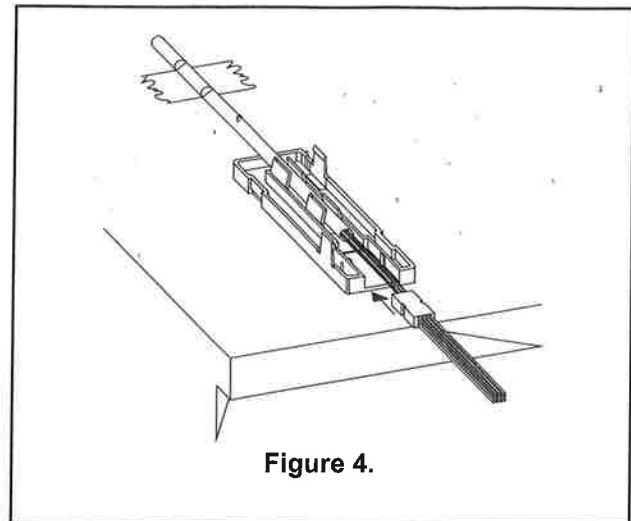

Figure 4.
- 7.8 Untape the buffer tube assembly and slide the fibers from the end of the tubing. If the fibers twist, rotate the terminal assembly in the opposite direction of the twist (see figure 4).